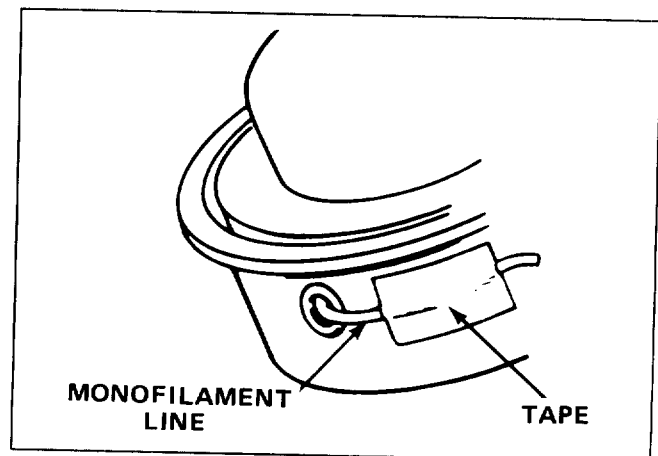

Figure 2
CUTTING LINE (Figs. 2 & 3)
1. To avoid tangling line during shipment, the tip of the monofilament line has been taped to the head assembly. The tape must be removed before operation (Fig. 2).